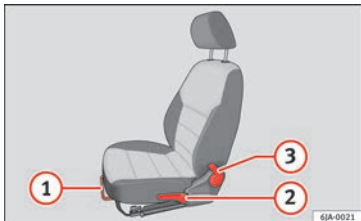

Fig. 58 Seat adjustment controls/Adjustment controls for a sports seat
- Lift the lever **1** » Fig. 58 (the central part) and move the seat forwards or backwards.
- To raise, pump the lever **2** » Fig. 58 (several times if required) upwards to the required seat position.
- Take your weight off the backrest and pull the lever **3** » Fig. 58 backwards, pressing on the backrest to the required angle.